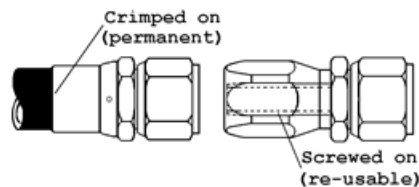

FIG 20.
- Hose fittings are also either permanent or re-usable. (Fig 20)